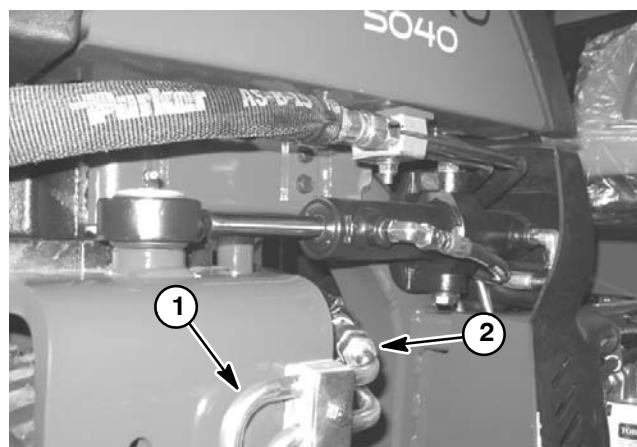

Figure 22
6. Disconnect hydraulic hose from hydraulic tube leading to the front wheel motor lower port to allow hydraulic tester (flow meter) installation (Fig. 22).